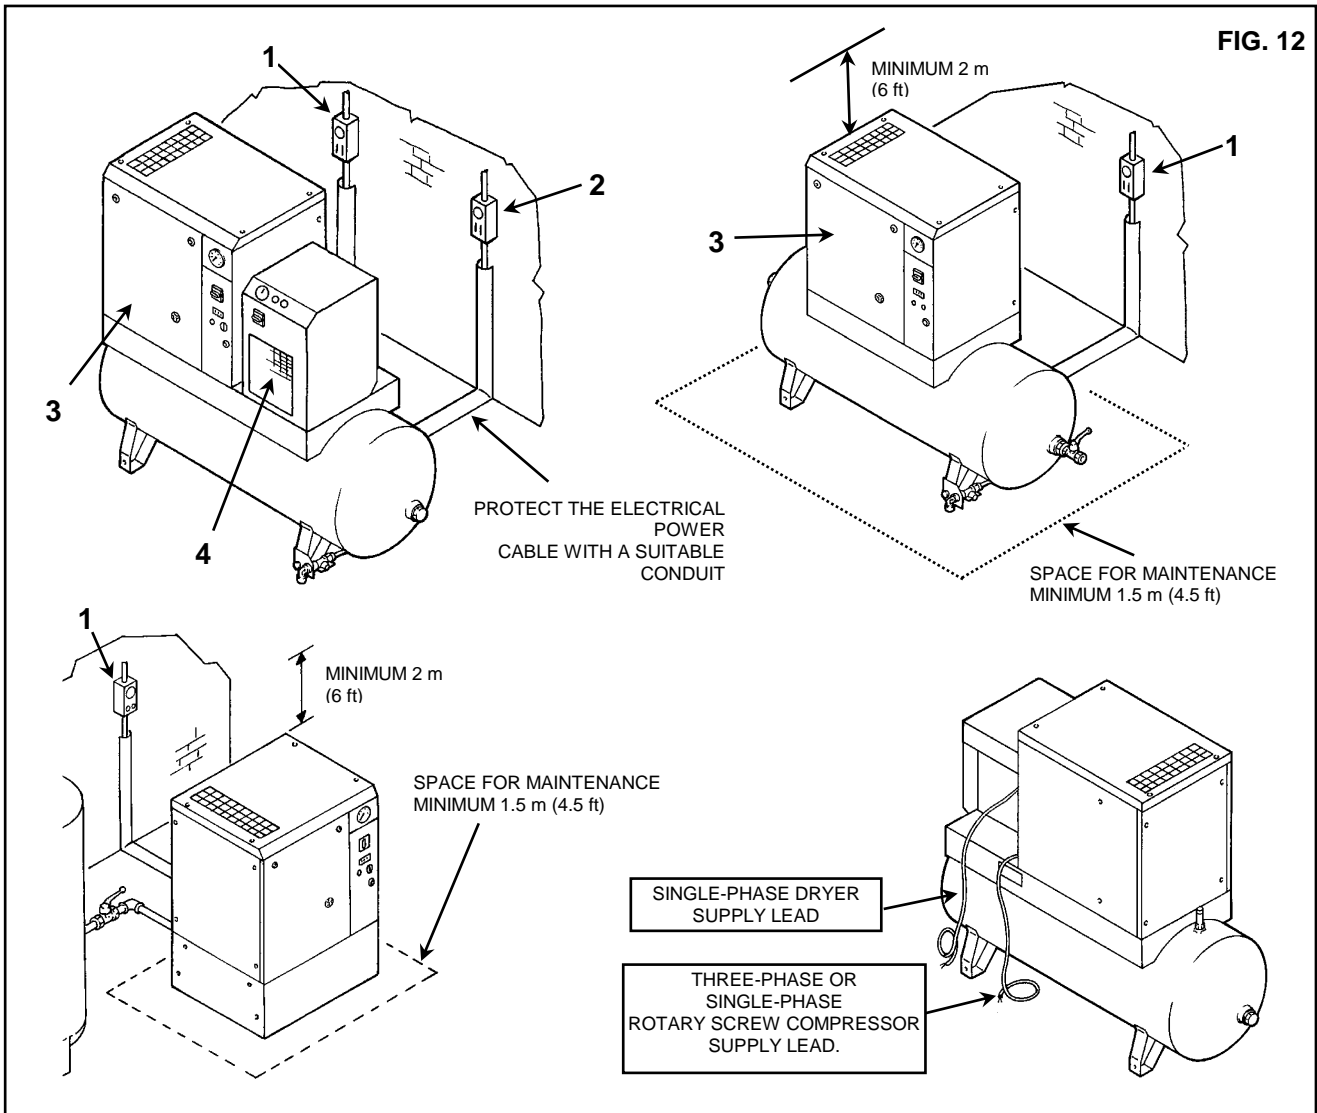

FIG. 12
- Ensure that there is sufficient space around the machine to allow maintenance (see Fig. 12).